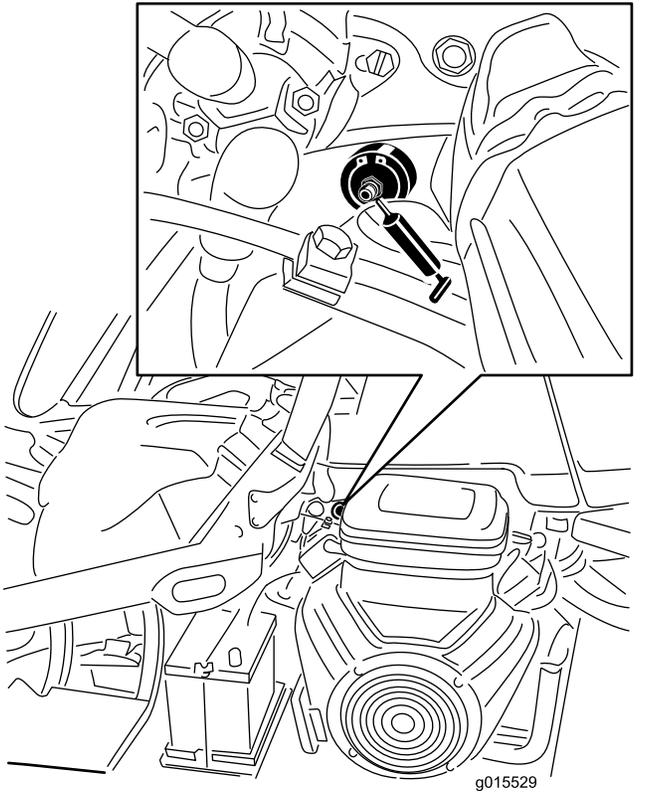

Figure 29
1. Wipe the grease fitting clean so that you do not force foreign matter into the bearing or bushing (Figure 29).